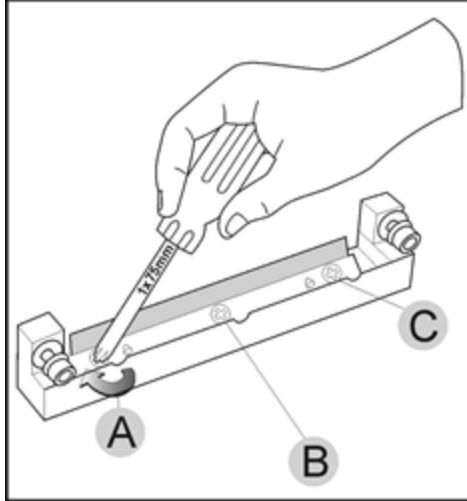

Figure 4-48 Tightening the roller scraper screws
- Tighten the screws in the order shown in Figure 4-48.